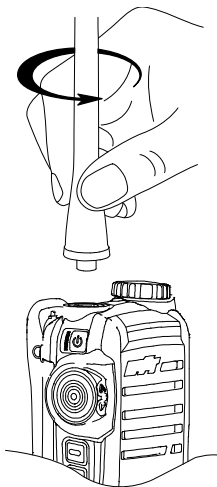

Figure 8
⑦ Turn the antenna counter-clockwise until you can remove it. See Figure 8.